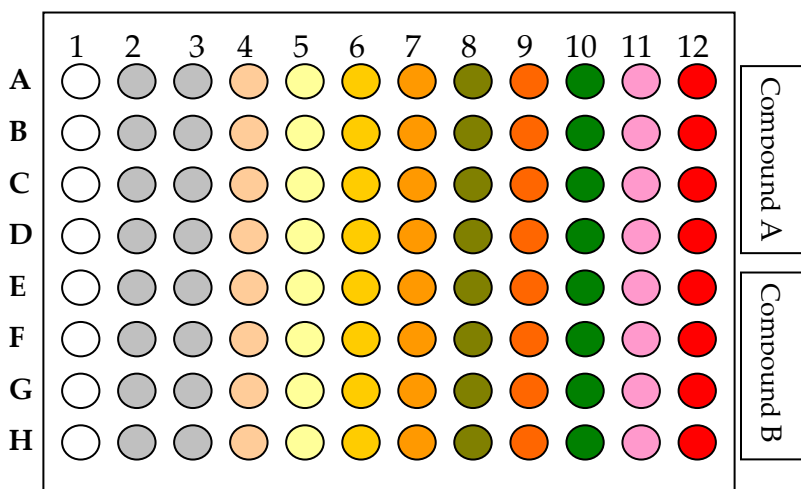

Figure 12.4-A: Set-up of Assay Plate
- Add compound dilution series to cells in microtiter plates (100 µl per well) using the adjustable Matrix multi-channel pipettor. Each drug should be dosed in quadruplicate, with two drugs per plate (Figure 12.4-A). The compounds should be added to the columns as follows: